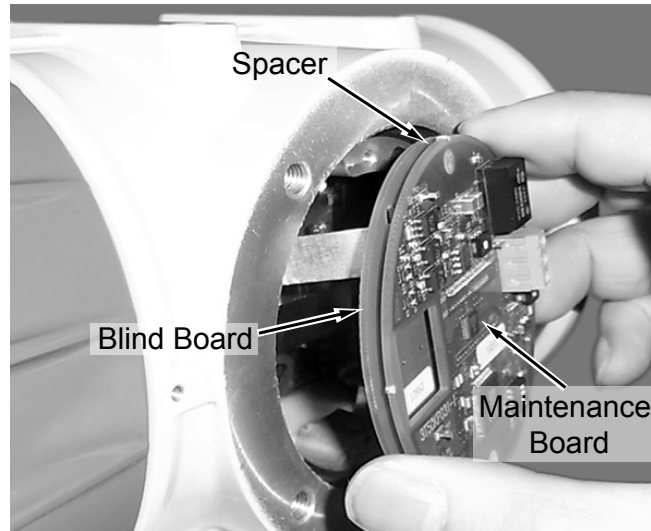

Figure 2.5—Maintenance and blind boards, showing location of shock-absorbing spacer (1 of 2)
3. Lift off the black plastic cap to expose the maintenance board (Figure 2.5). Take care not to lose the spacers between the circuit boards.
CAUTION The screws holding the plastic cap in place also secure two shock-absorbing spacers positioned between the maintenance board and the blind board underneath it (Figure 2.5). To avoid damage to the circuit boards, ensure that the spacers are in place before reinstalling the black plastic cap.